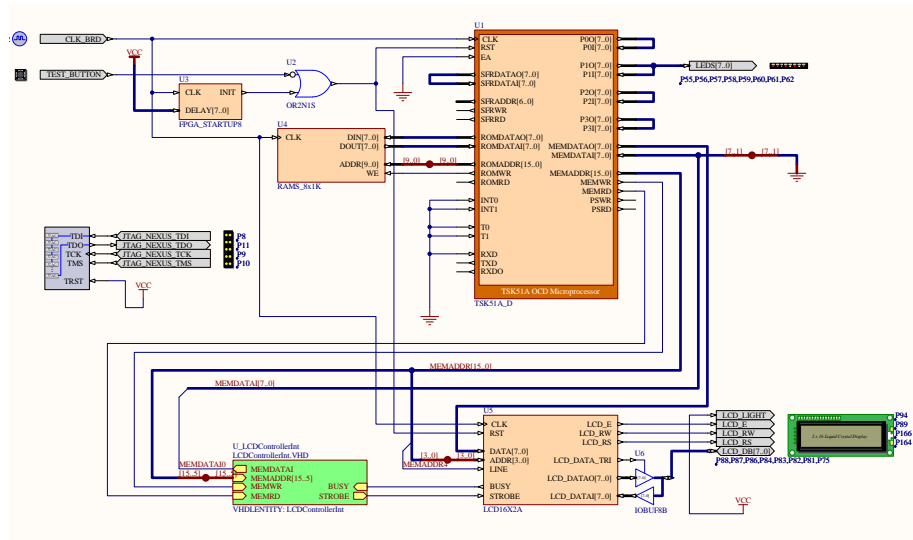
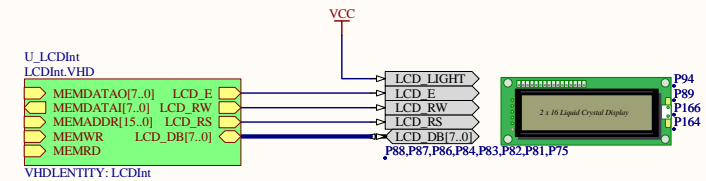

Figure 2: Top level schematic using the LCD controller
Figure 3: Direct interface between the CPU and LCD display
- Implement the design on the NanoBoard using the circuit from Tutorial 3 and write suitable test code. The top level schematic is shown in Figure 2. The test code is shown on Page 11.
A block diagram for the interface is shown in Figure 3. (This is Figure 2 in the tutorial work sheet). Note that the